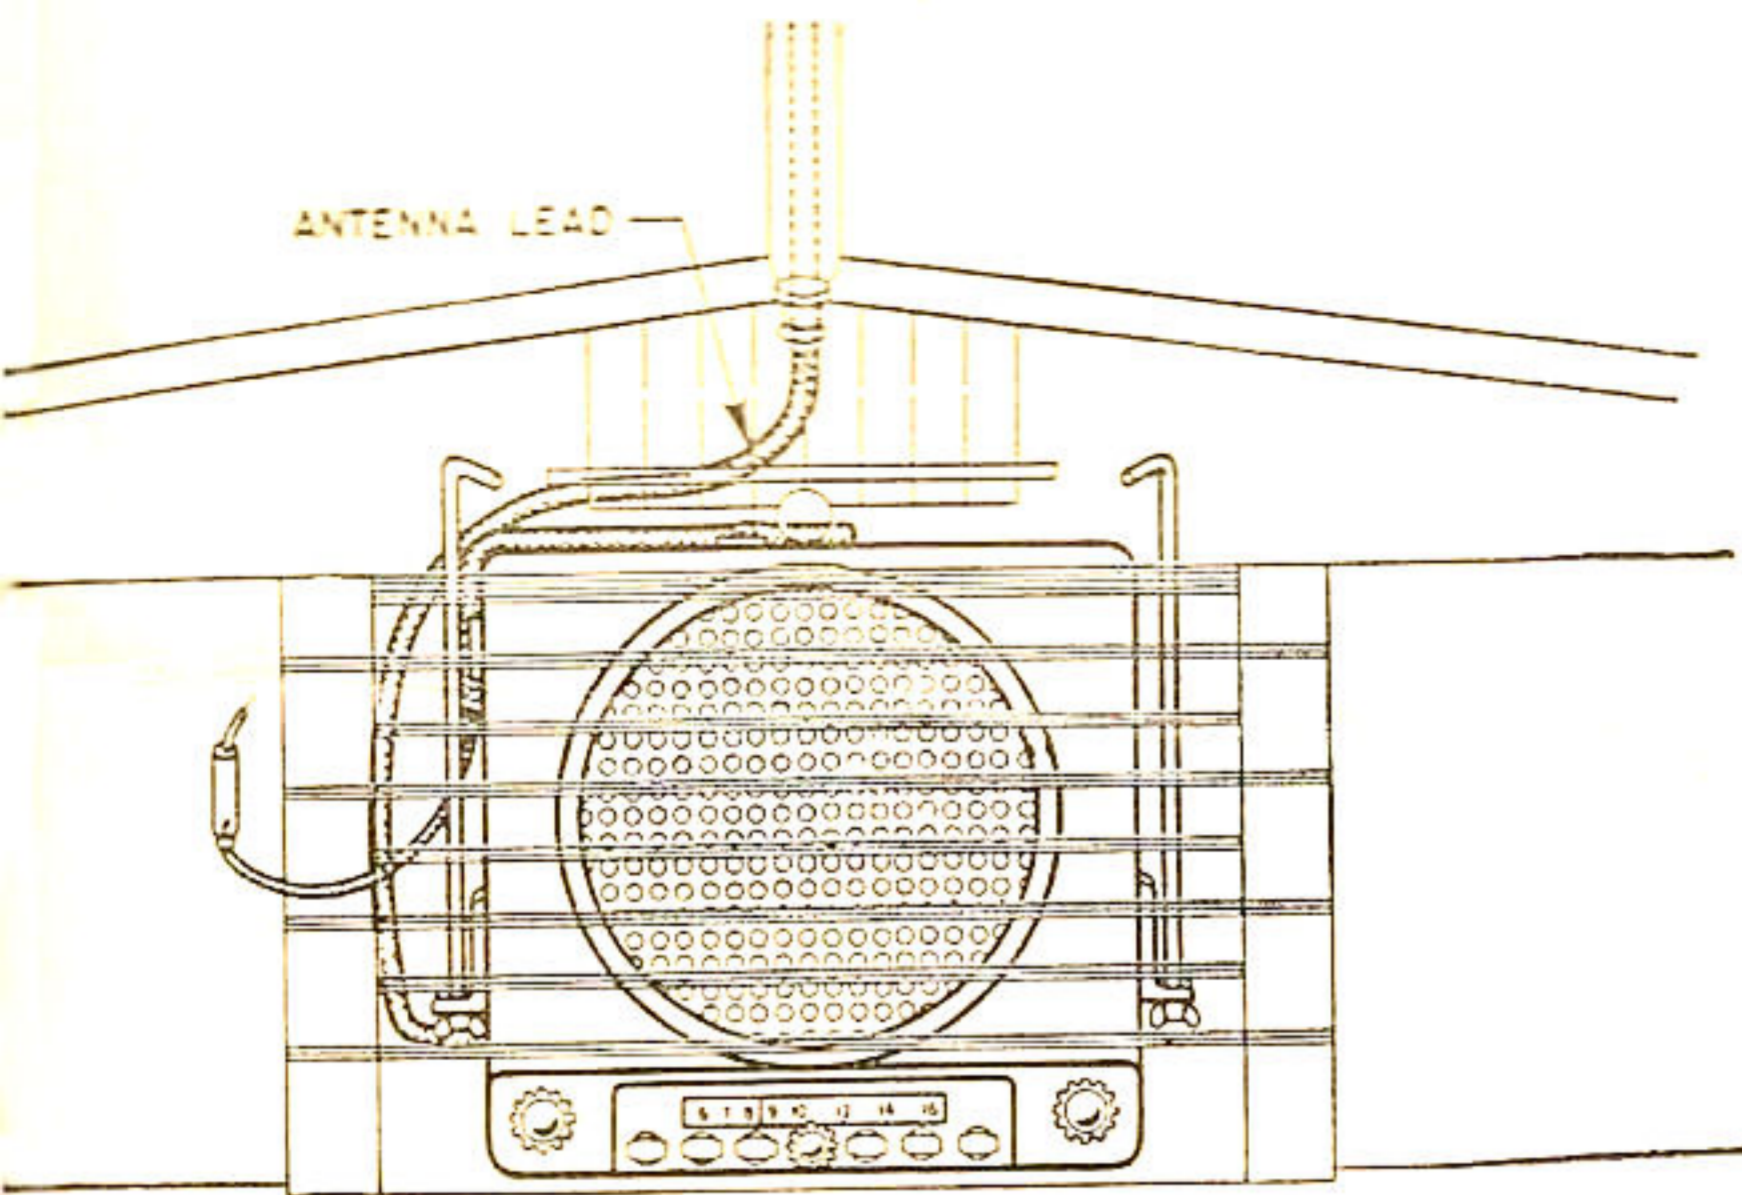

Fig. 1
Lift the radio set up behind the center of the instrument panel and carefully fit the radio bezel and knobshafts through their respective openings, as shown in Figures 1 and 2. Extreme care must be used so as not to scratch the automatic buttons or dial in this operation. Place the chrome gland nuts over the volume and tone shafts and tighten securely with the gland nut wrench. Remove the wire clip from the manual tuning shaft and press on the three control knobs.
4. Install the two hook bolts and wing nuts loosely in the set brackets and insert the hooked ends into the holes located on both sides of the radio, as shown in Fig. 1 and tighten the wing nuts.